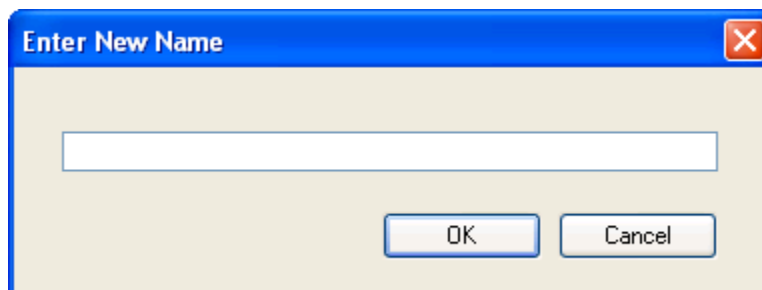

Figure 49 - Enter New Name Window
3. The **Enter New Name** window (Figure 49) appears.